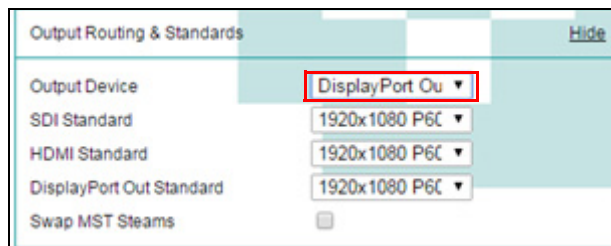

Figure 16: Output Routing & Standards
- Click **Show** in the **Output Routing and Standards** section on the right panel. The **Output Routing & Standards options** are displayed as shown in Figure 16. Use the pull-down menu to select the appropriate Output Device (For example, if you are using a DisplayPort monitor, set the Output Device to Display Port Output).